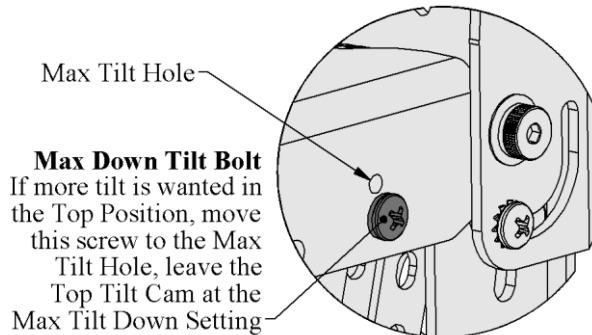

Figure 18, Max Down Tilt Bolt and Hole (Detail from Figure 2)
The cam is set for Max Down Tilt out of the box, if more tilt is required adjust the Max Down Tilt Bolt to the Max Tilt Hole Shown in Figure 18.
1. The Max Down Tilt Bolt (Figure 18) comes out of the box in the Vertical Tilt Hole